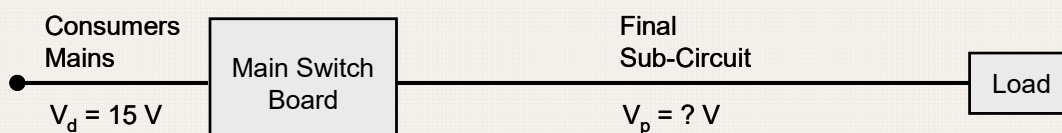

figure 7.
- Figure 7 is a 400 V three phase installation. What is the permissible voltage drop on the f.s.c.?